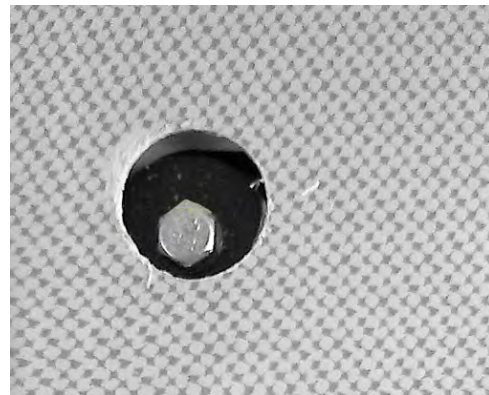

Figure 12-8
8. For each of the three holes, using a hand file, smooth the rough edges left by the hole saw (see Figure 12-8).